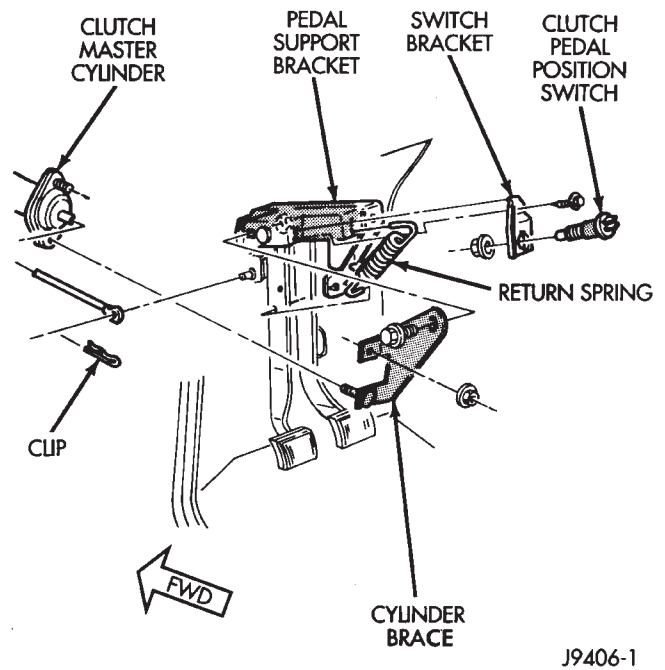

Fig. 9 Clutch Master Cylinder And Push Rod Attachment (Left Hand Drive Models)
(6) Verify that cap on clutch master cylinder reservoir is tight. This is necessary to avoid undue spillage during removal.
(7) Remove clutch master cylinder attaching nuts. Note that one nut is accessible from engine compartment and one nut is accessible from under instrument panel (Figs. 9 and 10).